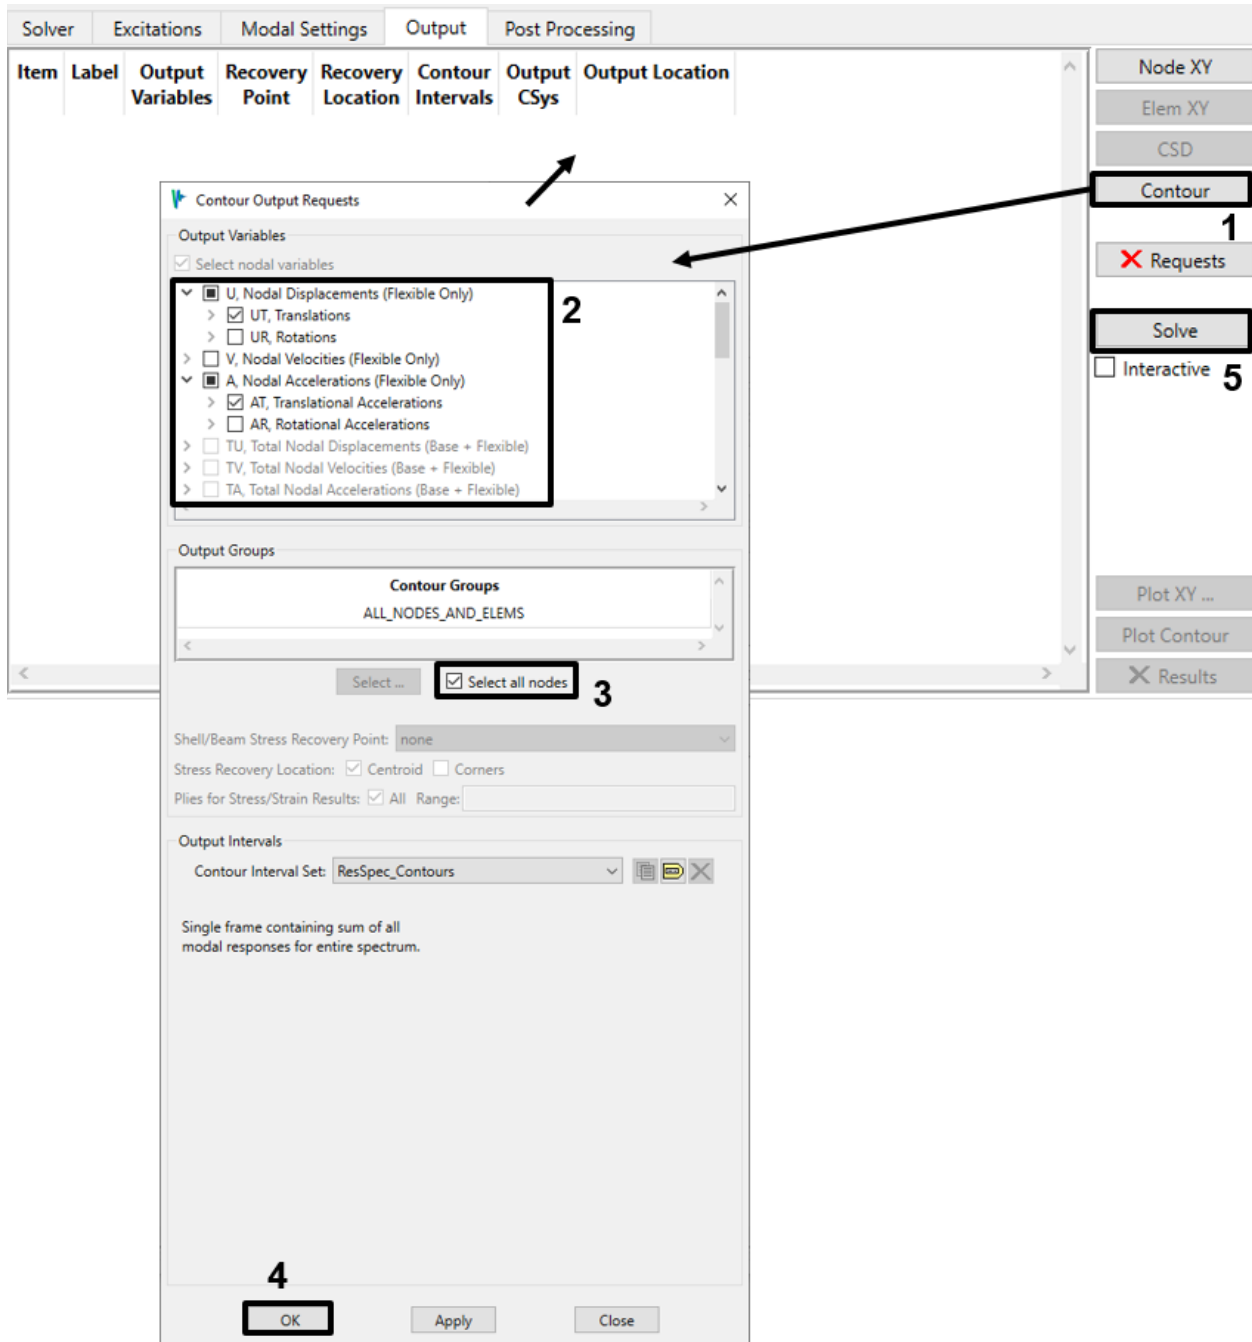

Figure 4-83. Request translational displacements and accelerations at all nodes.
- Go to the *Output* tab. Only contour output is available for response spectrum analysis, so create a contour request for displacement and acceleration (*UT*, *AT*) at all nodes (Figure 4-83). Note that the **Select nodal variables** toggle is checked and inactive; the normal modes solve did not request any elemental data. Solve the event but do not plot the contours at this time.